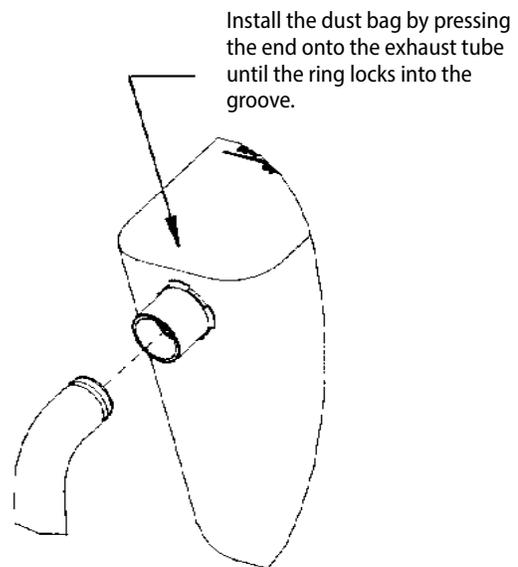

Figure 2
1. Install the dust bag by pressing the end onto the exhaust tube until the ring locks into the groove (Figure 2). This is best done by pressing on the back of the bag opening with the palm of your hand.